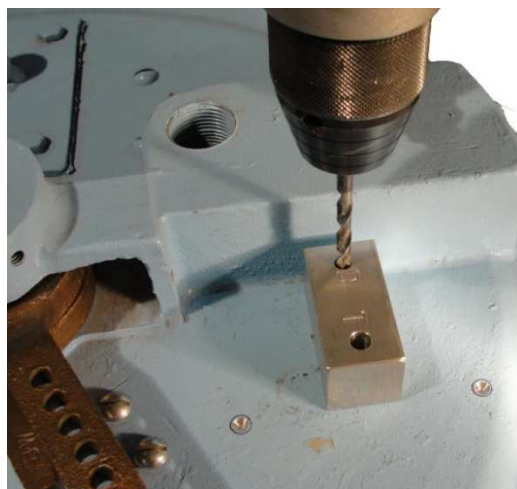

Figure 5: Drilling Holes Perpendicular to Drawer Face
4. Insert the #6 drill bit through the "D" side of the drill / tap guide and into one of the holes started in step 3. Press the drill / tap guide firmly against the face of the drawer so the hole is drilled as perpendicular to the face as possible. Drill completely through the drawer assembly. Repeat the same procedure on the other two holes started in step 3. This arrangement is shown in Figure 5 below.